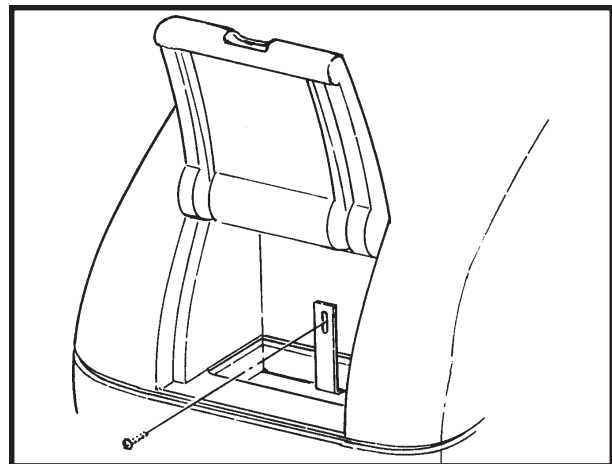

Figure 11
2. Check and clean the filter screen in the solution hose. To clean the screen, follow this procedure: (See figures 11 and 12 page 18)
How to replace float switch, check ballast tanks, and vacuum motor. (See Figure 11)